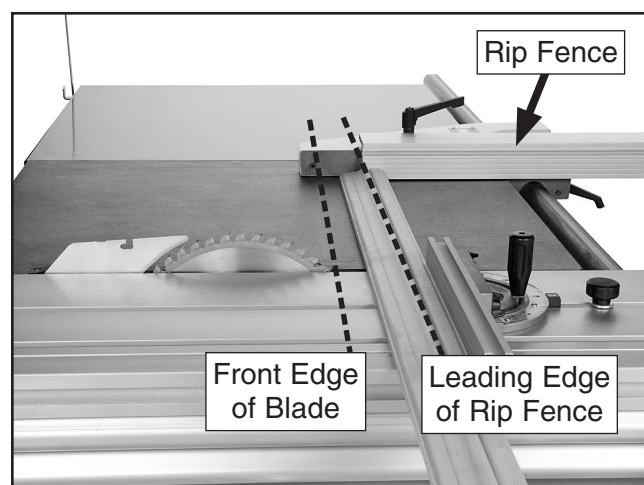

Figure 113. Example photo of correct rip fence position when using as a cut-off gauge (blade guard removed for clarity).
4. Slide leading end of rip fence behind front edge of blade (see **Figure 113**).
5. Load workpiece onto table saw and against rip fence. Setup should look similar to **Figure 113**.